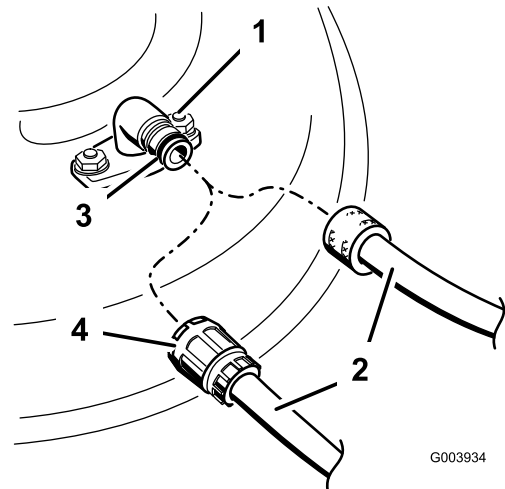

Figure 55
3. Attach the hose coupling to the end of the mower washout fitting, and turn the water on high (Figure 55).